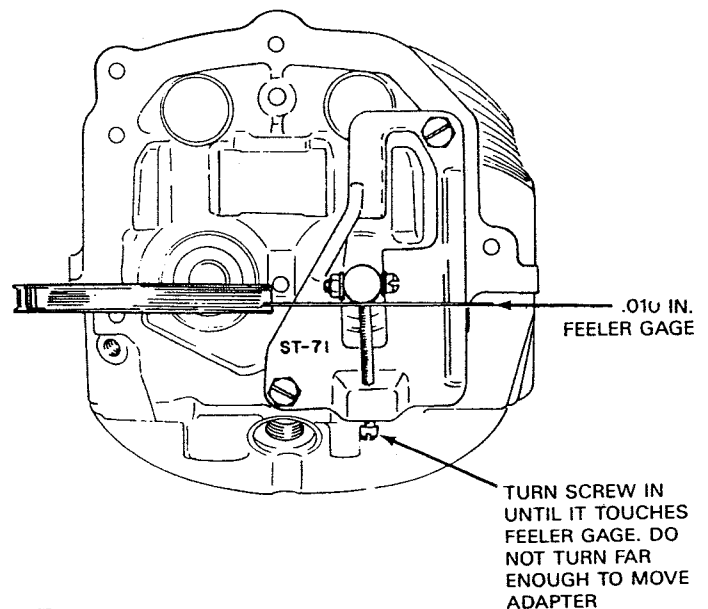

Figure 6. Feeler Gage in Position Between Set Screw and Adapter Post
11. All Engines: Using a .010 inch feeler gage between the set screw and gage adapter as shown in Figure 6, turn the set screw toward the gage until a slight drag is obtained on the feeler gage. Do not turn the screw far enough to move the adapter and valve stem.